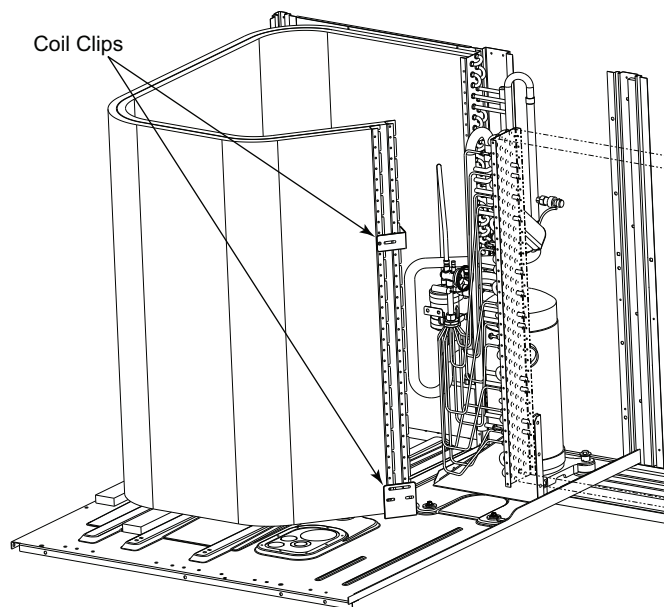

Fig. 16 — Condenser Coil Clips
5. Remove the screws from both sides of the upper and lower coil retaining clips on the hairpin end of the coil tube sheets. See Fig. 16.